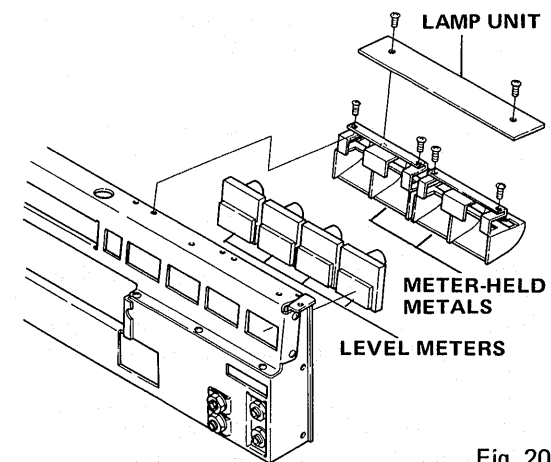

Fig. 20
3. Unscrew 2 screws, as shown in Fig. 20, to remove meter-held metal, then replace with a new one.